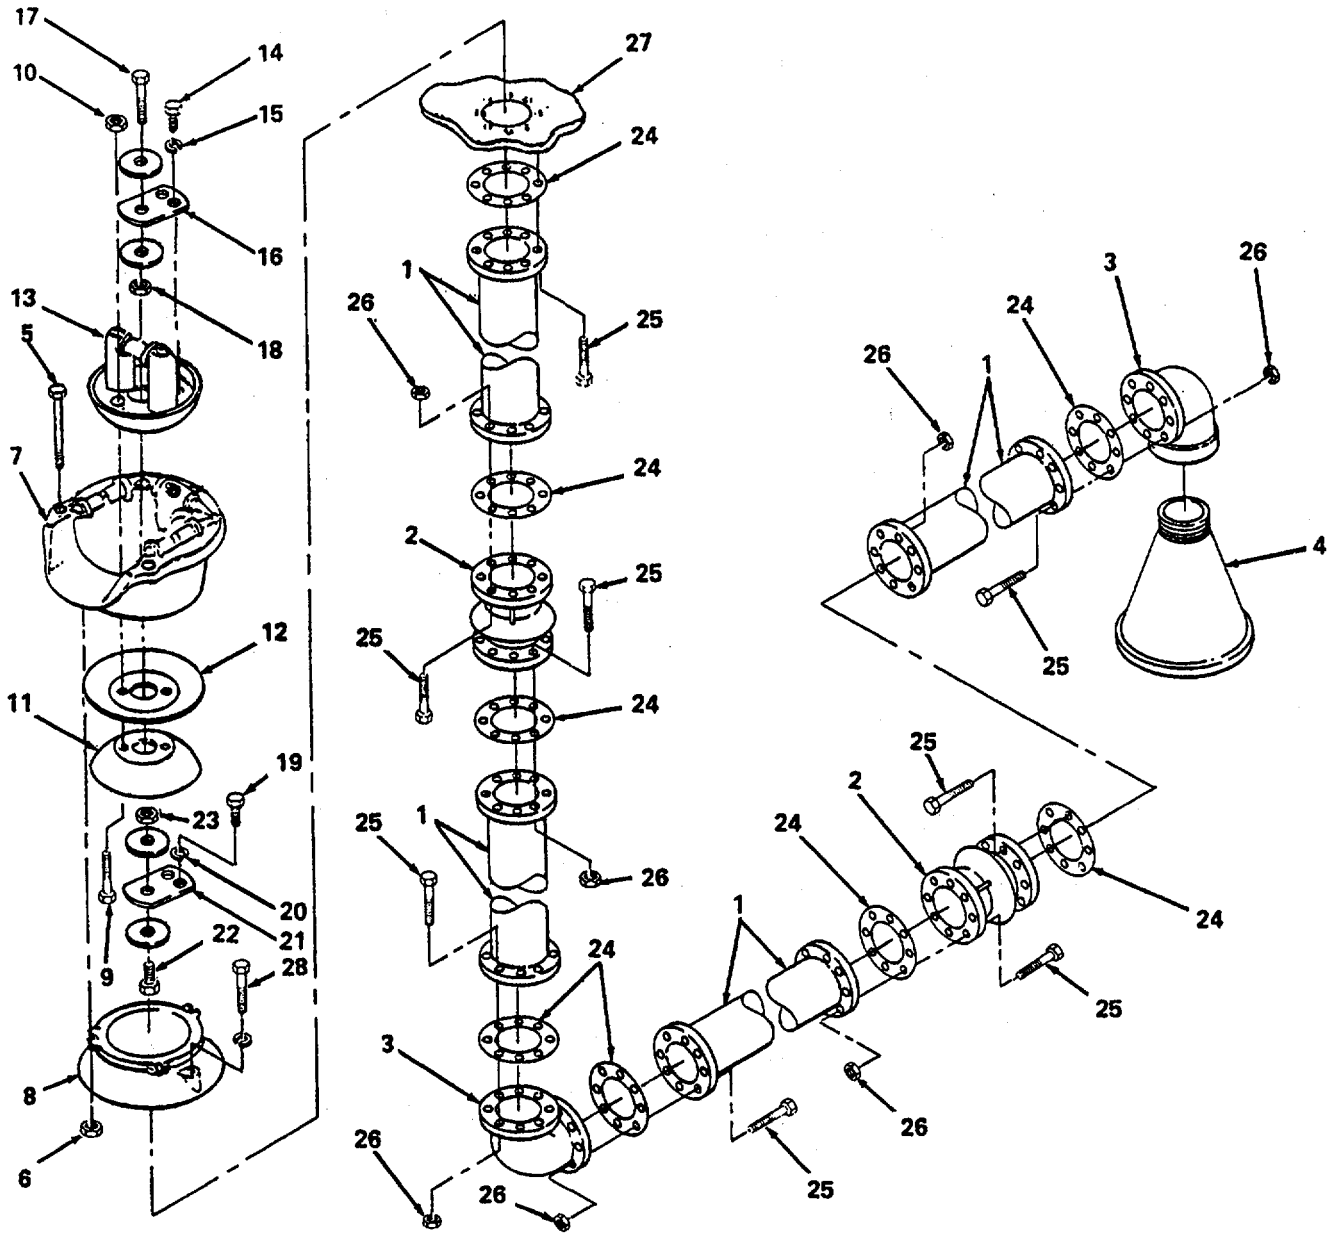

Figure 5-6. Bilge Pump and Piping Repair and Installation.
- (1) Inspect bilge suction piping and replace defective parts.
Inspect pipe sections (1 figure 5-6) couplings (2) and elbows (3) for cracks and deterioration. Inspect valve seat and strainer in suction bell (4). Replace defective parts, as necessary.
- (2) Disassemble bilge pump and replace defective parts.